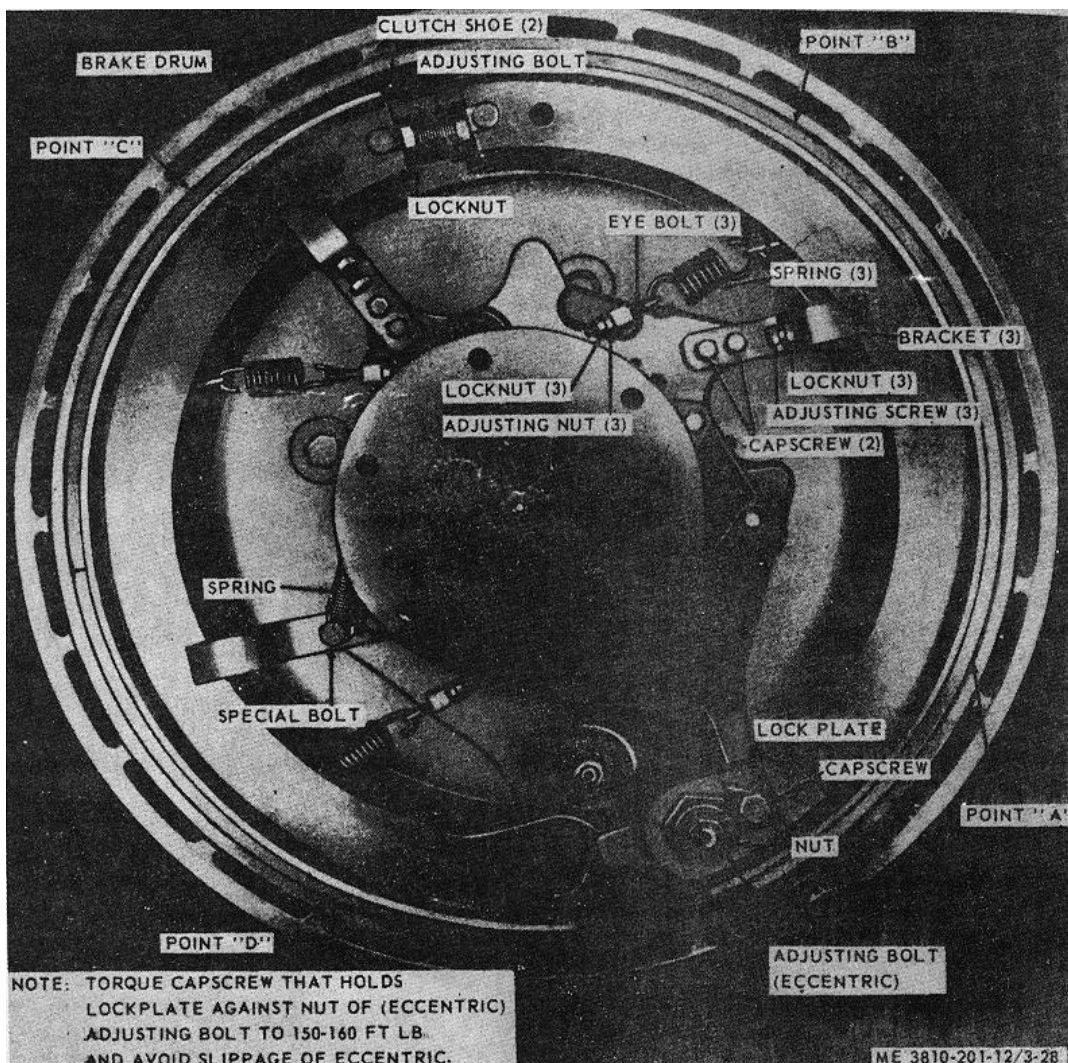

Figure 3-20. Hoist clutch shoes adjustment and removal points.
b. *Main Hoist or Digging Clutch Lining Wear Adjustment.* To compensate for lining wear on main clutch, loosen locknut on adjusting bolt (fig. 3-20) and turn adjusting bolt until clutch linings are in proper adjustment. Tighten locknut to hold the adjustment.
(1) When clearance between clutch shoe lining and the clutch drum points A, B and C (fig. 3-20) exceeds 3/32 inch, or when new clutch
(4) The tension of three springs (fig. 3-20) should be adjusted just tight enough to prevent clutch shoes from engaging the clutch drum when machinery is rotated at full speed. These springs should not be tighter than necessary to prevent clutch shoes from dragging.
(5) It may be necessary to bend the two brackets slightly to get a good fit of the clutch shoe within the clutch drum.